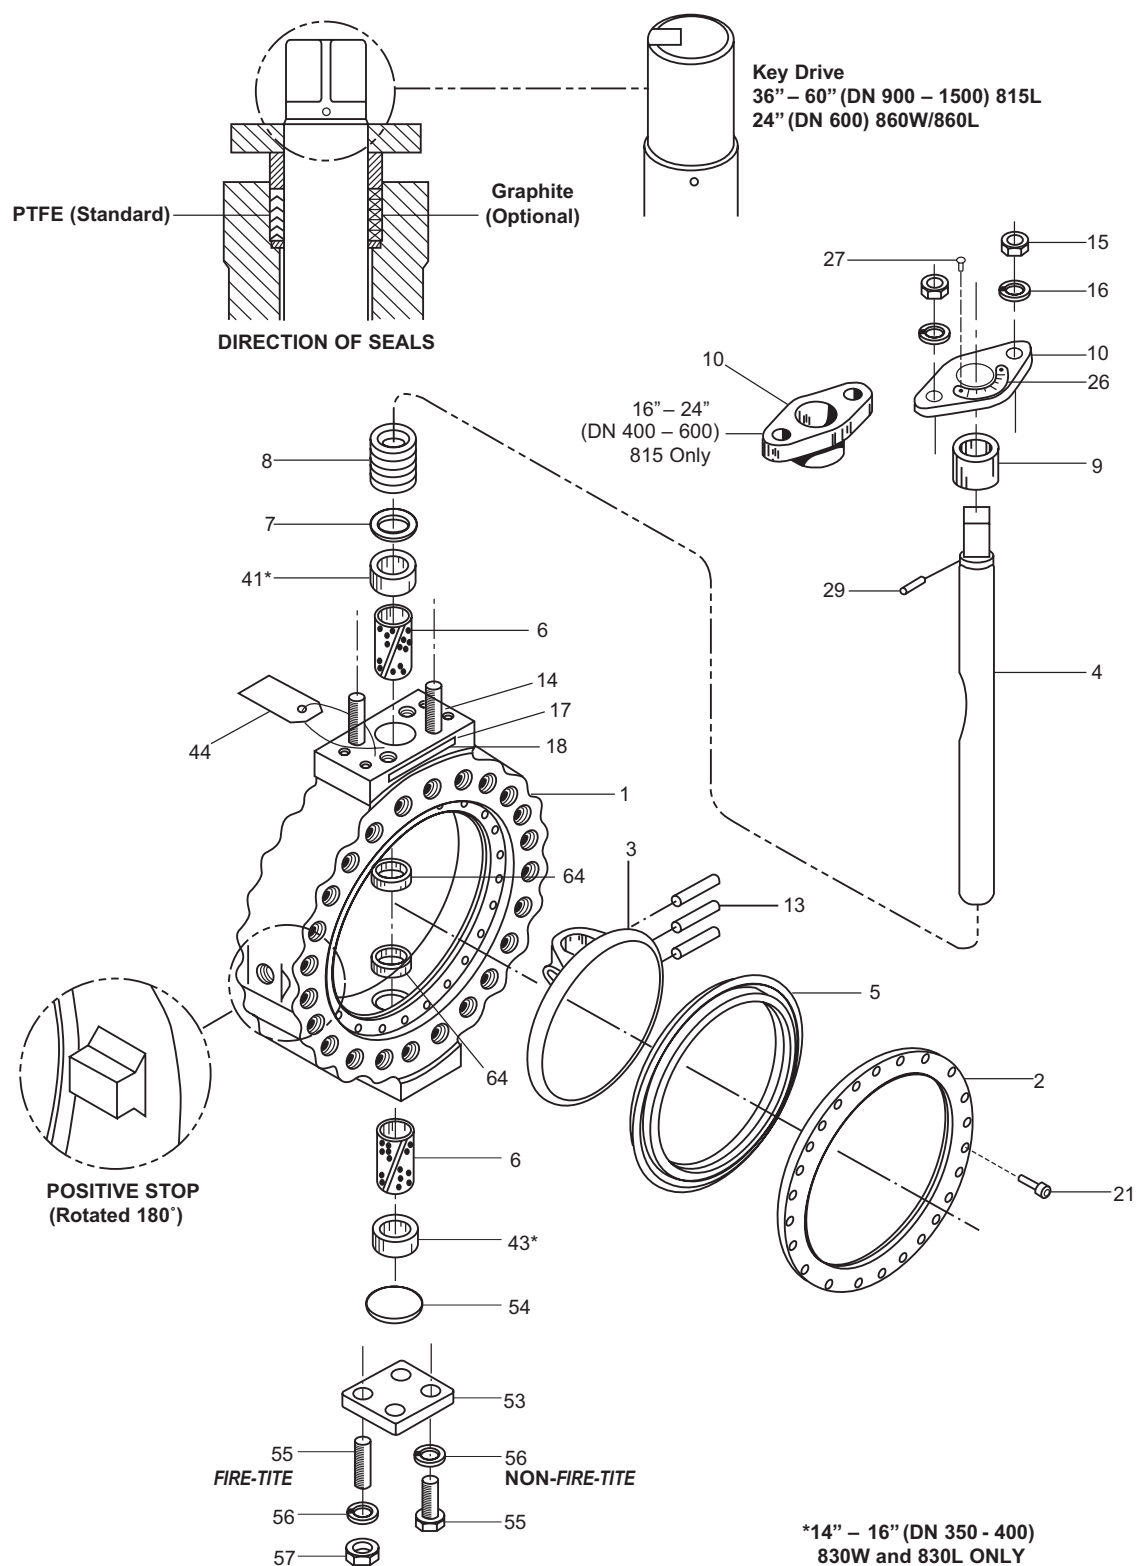

Figure 11.
3. Place the coupling onto the valve stem. If the valve has a two-piece "no-play" bolted coupling, assemble the coupling loosely on the valve stem. Use socket head cap screws and lock nuts (**See Figure 11**).